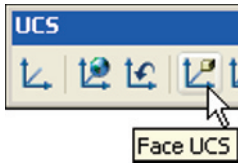
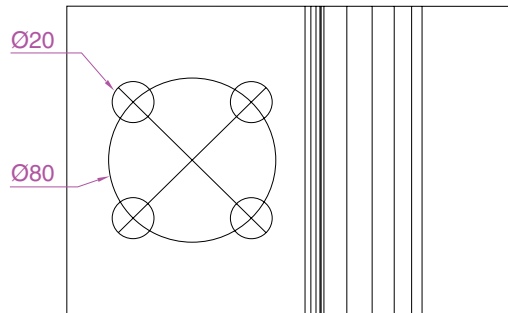

Fig. 17.25 The **Face UCS** icon from the **UCS** toolbar
Fig. 17.26 Second example – **2D outlines in 3D space** – the circles in the new UCS face
Second example – 2D outlines in 3D space (Fig. 17.26)
4. Click the **Face UCS** tool icon in the **UCS** toolbar (Fig. 17.25) and place the 3D model in the ucs plane shown in Fig. 17.26, selecting the sloping face of the extrusion for the plane and again **Zoom to 1**.
5. With the **Circle** tool draw five circles as shown in Fig. 17.26.